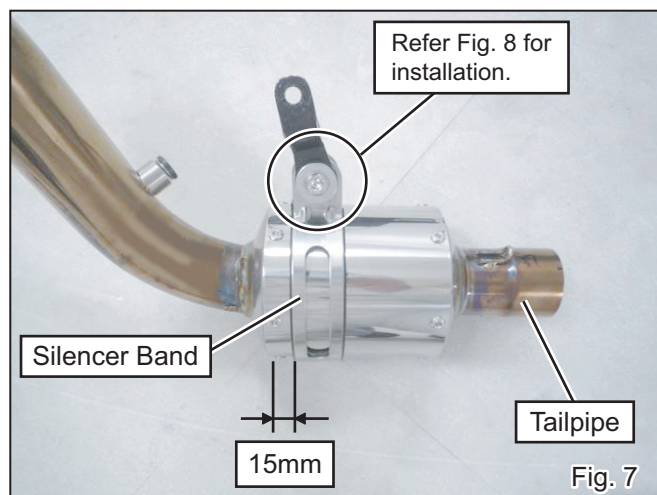

Fig. 7
- 8) Place Silencer Band Rubber inside Silencer Band and install it on Sub-silencer. Respect 15mm gap between the silencer band and sub silencer's rear end. Then fix the Silencer Band on Tailpipe Bracket with Cap Bolt M8x35, 3 of Washer M8x26 and Flange Nut M8 (see Fig. 7 & 8).